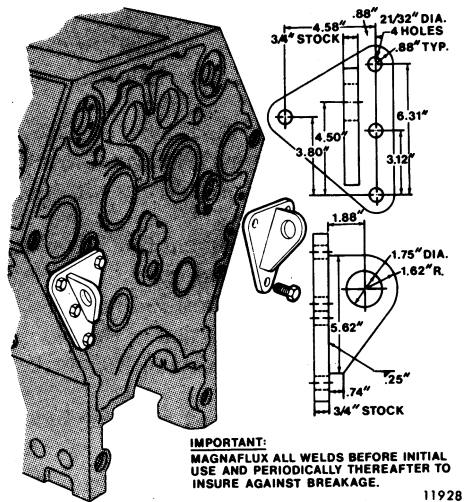

Fig. 10 - Details of Cylinder Block Lifting Plates
1. Attach suitable lifting brackets to the end of the front cylinder block (Fig. 10).
• CAUTION: NEVER use eyebolts or any other commonly purchased hardware to lift the cylinder block. Due to the weight of the blocks, it is important that the lifting brackets are constructed (Fig. 10) and that all weld joints are magnafluxed prior to and periodically after initial use.
9. Attach the lifting brackets to the rear end of the front cylinder block (Fig. 10).